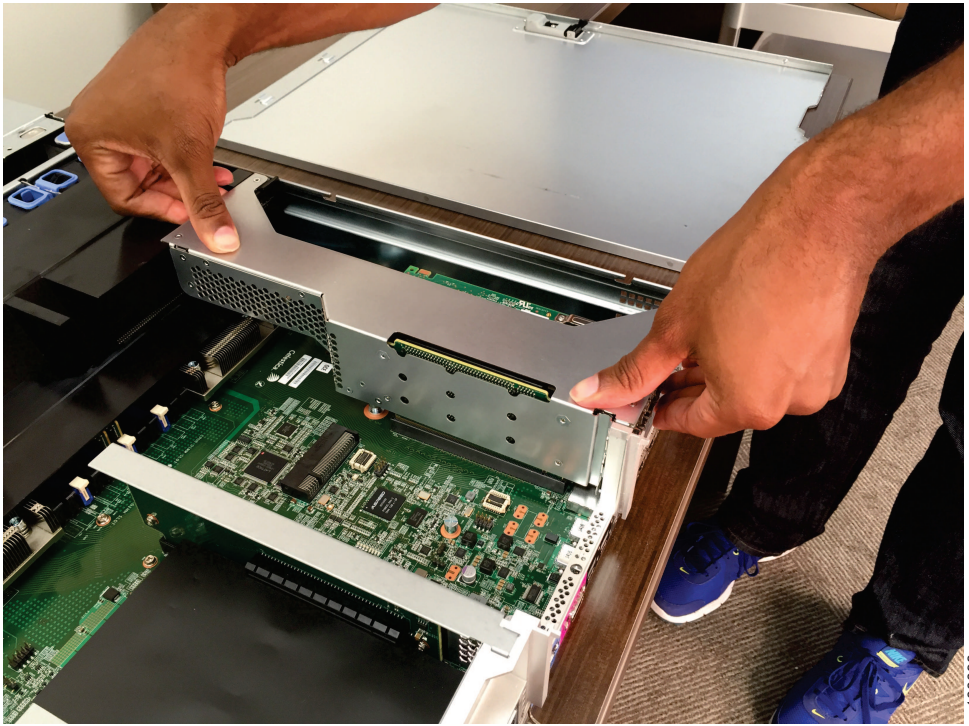

Figure 151. Replacing PCI riser card assembly 1
3. Press down on the assembly and make sure that each riser-card assembly is fully seated in the riser-card connector on the system board, as Figure 151 shows.